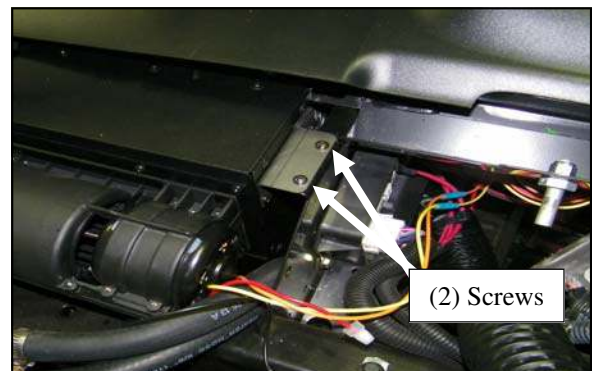

FIGURE 2.3
- 2.3 Fasten the left bracket to the vehicle frame with the following hardware using the two holes as a guide. See Figure 2.3.